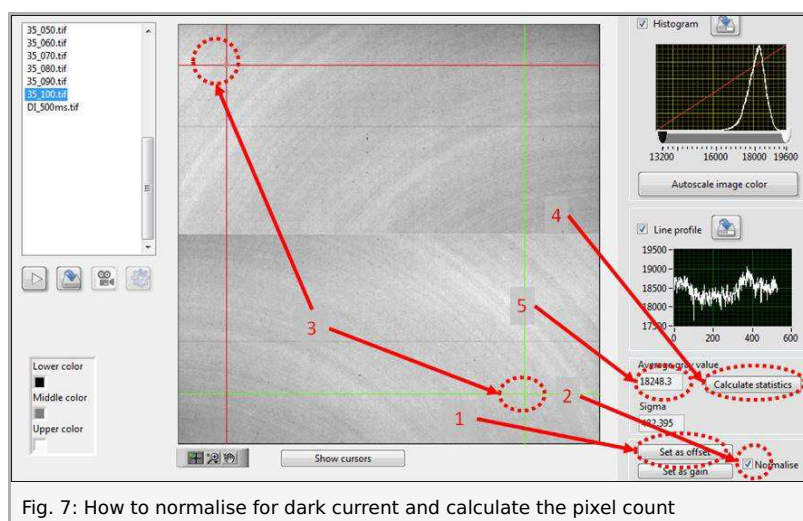

Fig. 7: How to normalise for dark current and calculate the pixel count
- Open the image viewer, correct for dark current and calculate the average pixel count in a relatively large area (see Fig. 7).